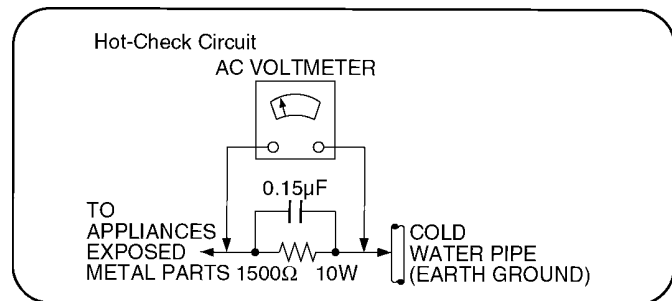

Figure 1
1.1.2. Leakage current hot check (See Figure 1 .)
2. Connect a $1.5k\Omega$, 10 watts resistor, in parallel with a $0.15\mu F$ capacitors, between each exposed metallic part on the set and a good earth ground such as a water pipe, as shown in Figure 1.